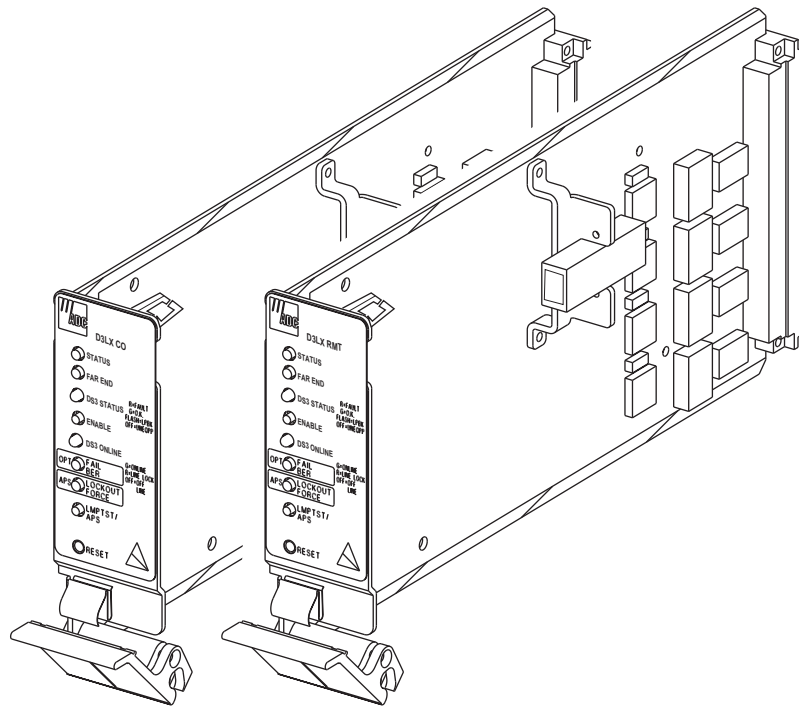

Figure 1. D3LX CO and D3LX RMT Modules
The Soneplex® DS3 Loop Extender (D3LX) modules shown in Figure 1 are a pair of fiber-optic units that provide DS3 service. The D3LX CO resides at the Central Office (CO) site, and the D3LX RMT resides at the Customer Premises Equipment (CPE) or remote site.